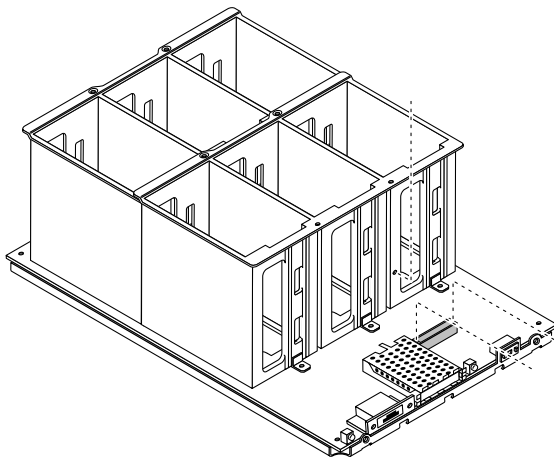

FIGURE 3-4 Drive Cage With Backplane
- Drive cage with backplane (FIGURE 3-4)